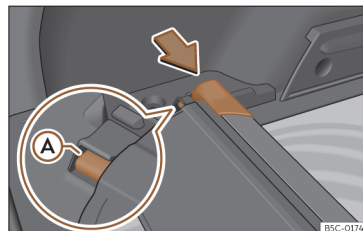

Fig. 124 In the luggage compartment: space to store the retractable shelf.
- Press the head of the retractable shelf in the direction of the arrow until it engages in its housing»» Fig. 124 . Make sure that slide (A) fits into the corresponding housing.